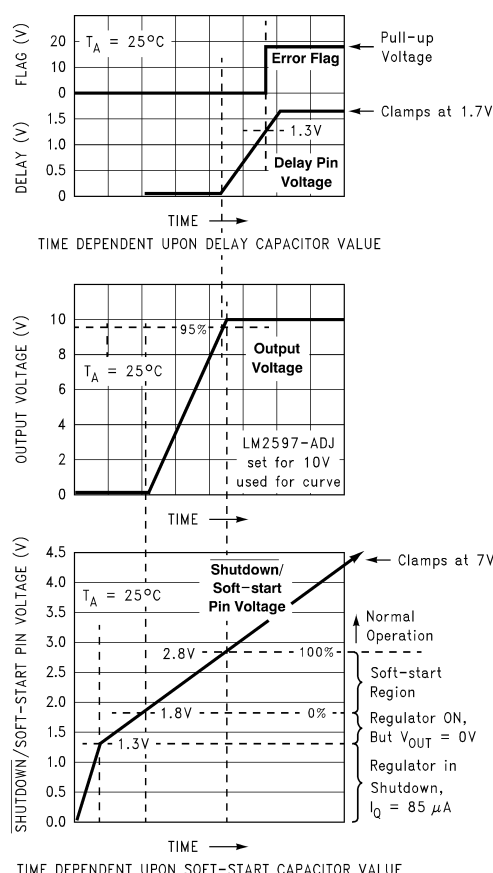
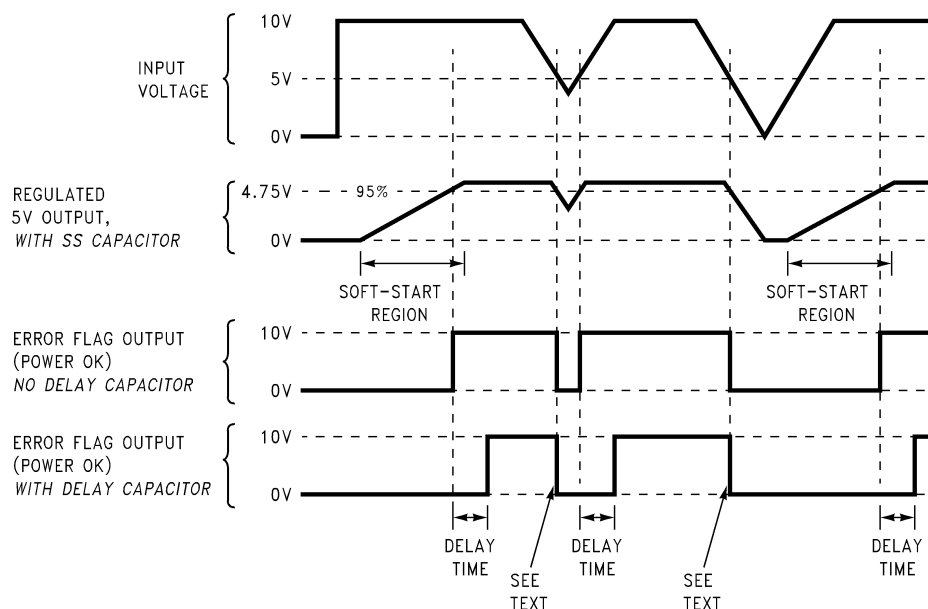

Figure 32. Soft-start, Delay, Error, Output
Figure 33. Timing Diagram for 5V Output
**CSS** —A capacitor on this pin provides the regulator with a Soft-start feature (slow start-up). When the DC input voltage is first applied to the regulator, or when the Shutdown /Soft-start pin is allowed to go high, a constant current (approximately 5 µA begins charging this capacitor). As the capacitor voltage rises, the regulator goes through four operating regions (See the bottom curve in Figure 32).
3. **Soft-start Region.** When the  $\overline{SD}$  /SS pin voltage is between 1.8V and 2.8V (@ 25°C), the regulator is in a Soft-start condition. The switch (Pin 8) duty cycle initially starts out very low, with narrow pulses and gradually get wider as the capacitor  $\overline{SD}$  /SS pin ramps up towards 2.8V. As the duty cycle increases, the output voltage also increases at a controlled ramp up. See the center curve in Figure 32. The input supply current requirement also starts out at a low level for the narrow pulses and ramp up in a controlled manner. This is a very useful feature in some switcher topologies that require large startup currents (such as the inverting configuration) which can load down the input power supply.
The lower curve shown in Figure 32 shows the Soft-start region from 0% to 100%. This is not the duty cycle percentage, but the output voltage percentage. Also, the Soft-start voltage range has a negative temperature coefficient associated with it. See the Soft-start curve in Electrical Characteristics.
**CDELAY** —Provides delay for the error flag output. See the upper curve in Figure 32, and also refer to timing diagrams in Figure 33. A capacitor on this pin provides a time delay between the time the regulated output voltage (when it is increasing in value) reaches 95% of the nominal output voltage, and the time the error flag output goes high. A 3  $\mu$ A constant current from the delay pin charges the delay capacitor resulting in a voltage ramp. When this voltage reaches a threshold of approximately 1.3V, the open collector error flag output (or power OK) goes high. This signal can be used to indicate that the regulated output has reached the correct voltage and has stabilized.